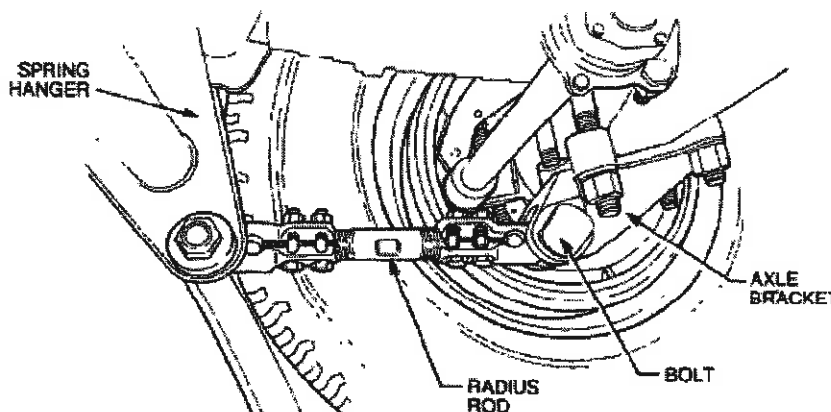

Figure 35 Radius Rod - Mounting
- b. Remove the bolt, nut and washer retaining the radius rod in the front spring hanger and the axle bracket (Figure 35).